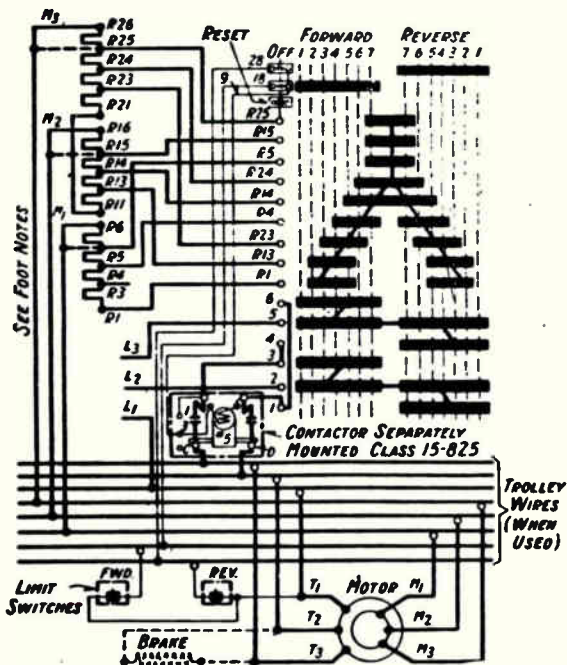

Fig. 16-37
**Fig. 16-37.** Drum controller for wound-rotor motor. Primary motor terminals (stator) are T1, T2 and T3; secondary (rotor) are M1, M2 and M3. One phase of the secondary is open on the first point of the controller. Resistor steps R5-R6, R15-R16 and R25-R26 are for resistance remaining permanently in circuit. If these not supplied, connect M1, M2 and M3 to R5, R15 and R25 as indicated by broken lines. For higher starting torque, or for motors above 80 h.p., connect R1 to R11 at the resistor and finger marked R1 on controller to terminal R3 on resistors. (Westinghouse diagram).